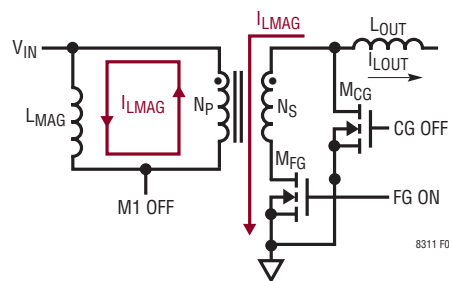

Figure 3. With FG On,  $I_{LMAG}$  Is Conducted Through  $M_{FG}$  to Ground on the Secondary Side When  $M_1$  Turns Off
the primary winding voltage gets smaller too, effectively moving SWP towards  $V_{IN}$ . Since  $M_{FG}$  is still on, and  $M_{CG}$ 's body diode is on, the secondary winding voltage gets clamped at about a diode voltage. Through transformer action, SWP gets clamped to approximately  $V_{IN}$ .  $I_{LMAG}$  flows in the secondary windings, as shown in Figure 3, flowing from the drain to source of  $M_{FG}$ , to ground.  $M_{CG}$ 's body diode sources  $I_{L_{OUT}}$  and  $I_{LMAG}$ .
2. **Resonant Reset Case (blue waveform):** Resonant reset ultimately completes when SWP's quasi-sinusoidal waveform returns to  $V_{IN}$ , by which point  $I_{LMAG}$  is reset to a negative value. FSW is eventually clamped by  $M_{FG}$ 's body diode, and conducts  $I_{LMAG}$ , through the secondary windings, towards the output inductor (similar to Figure 3, but with  $I_{LMAG}$  direction reversed on primary and secondary sides). With a diode voltage imposed across the secondary windings, transformer action